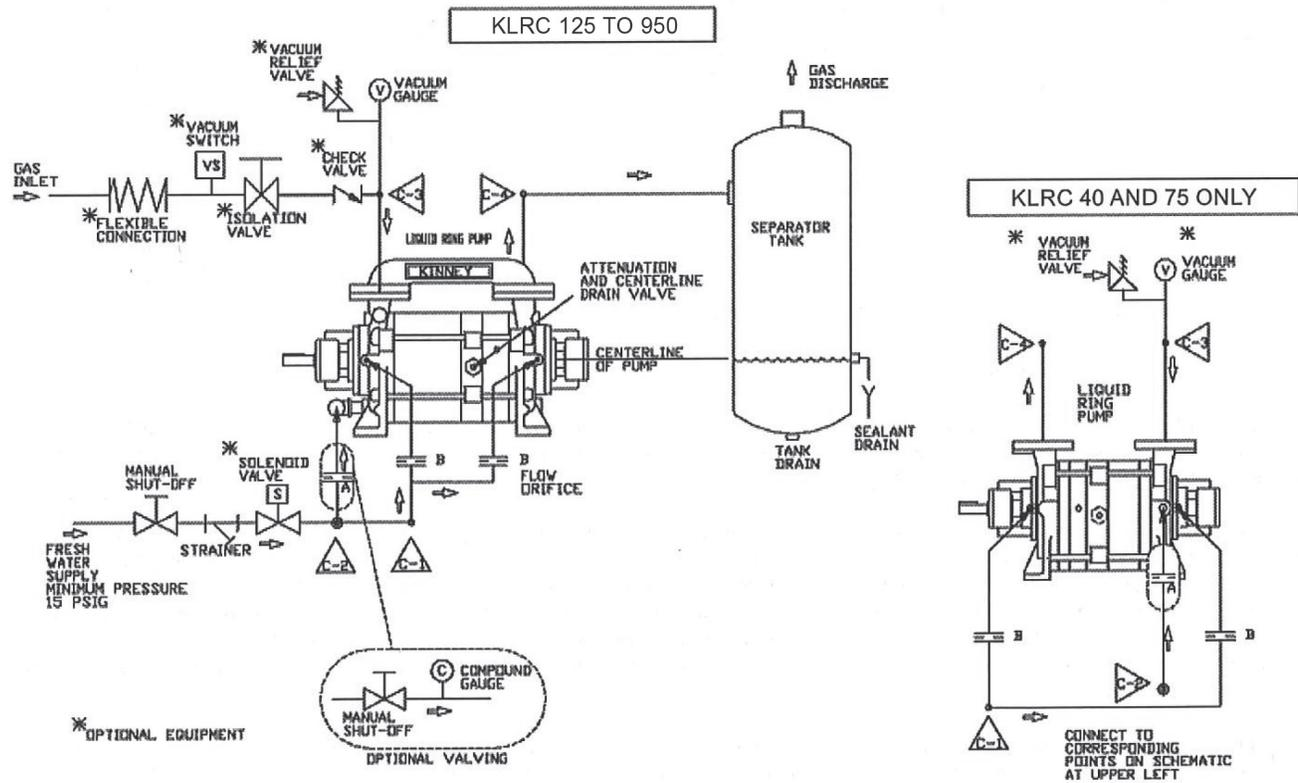
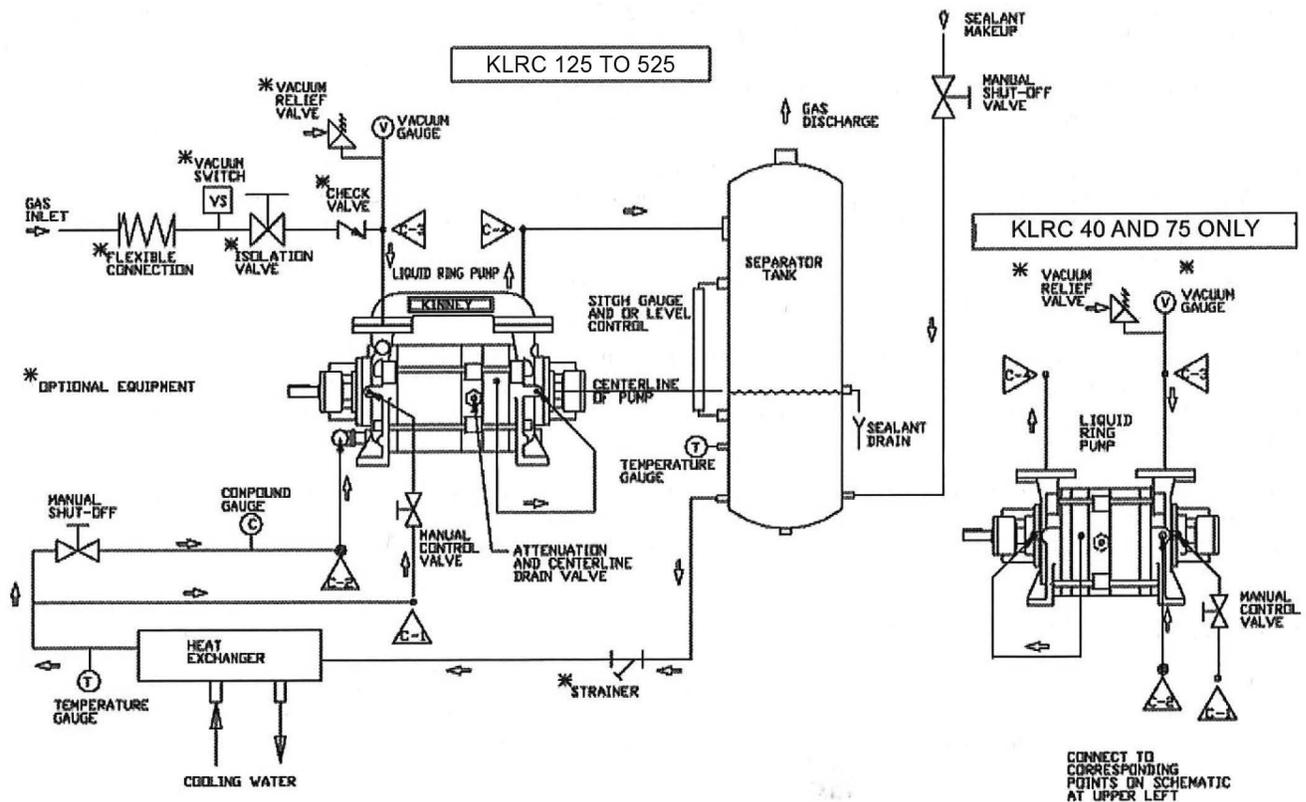

Figure 3-1 – Piping Schematic Once-Through Recovery System
Figure 3-4 – Piping Schematic: Full Sealant Recovery System without Circulating Pump
Figure 3-1 on page 7 through Figure 3-4 on page 10 illustrate sealant configurations:
- Once-Through (Figure 3-1)
- Full Recovery without Circulating (Figure 3-4)
See **Specifications on page 20** for size of connections. **Figure 3-1 on page 7** through **Figure 3-4 on page 10** show the connection locations for suction and discharge gas, sealant water, and shaft seal cooling water of different pump models. Note that connections are different for KLRC-40 and -75 compared to KLRC-125 to -950. Also shown are the valves and gauges as they should generally be located for any of the piping arrangements. Piping must be no smaller than the pump connection and must be aligned, and may have to be supported, so as not to place a strain on the pump.
Sealant must be piped to the mechanical seals in order to keep the seal faces cooled and lubricated. The seals will fail if a suitable flow of sealant is not supplied. The sealant must be clean and free of particulates. Dirt or grit will cause the seal faces to wear and fail prematurely. Connect the sealant piping to the seals as shown in **Figure 3-1 on page 7** through **Figure 3-4 on page 10**. Note that the connections to the pump are different for KLRC-40 and -75 compared to KLRC-125 to -950.
The suction and discharge ports are distinguishable by arrows on the pump, and are also shown in **Figure 3-1 on page 7** through **Figure 3-4 on page 10**. Note that the discharge port on the KLRC-40 and KLRC-75 are at the shaft drive end, whereas on the KLRC-125 to KLRC-950 the discharge port is at the non-drive end. The discharge leg should not have more than 24 inches of elevation from the pump discharge flange. Too much elevation in this line would cause a buildup of back pressure, overload the motor, and reduce the efficiency of the pump. During initial operation, install a screen across the incoming port of the suction end casing to prevent abrasive particles from entering the pump. Remove any accumulation in the screen often enough to prevent restriction of gas flow. Remove the screen when particulate accumulation no longer occurs.